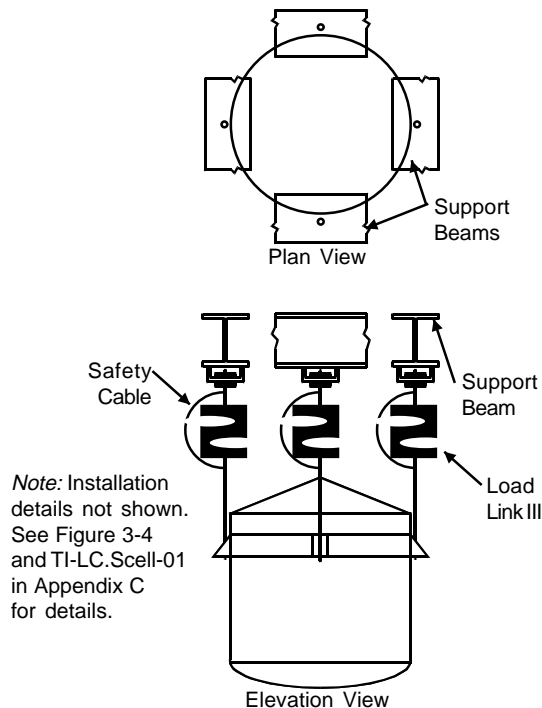

Figure 3-3. Four-Point Support Installation
- See Figure 3-3. **Four-point support** installation distributes vessel weight on four Load Links. Use turnbuckles to control the support length, ensuring each Load Link carries a proportional share of weight.